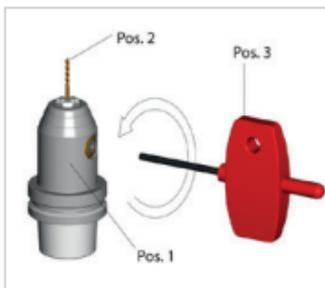

Figure 4: Loosening clamping jaws
- Loosen the clamping jaws by turning the pinion counterclockwise using the appropriate hex-wrench (see "Figure 4: Loosening clamping jaws").